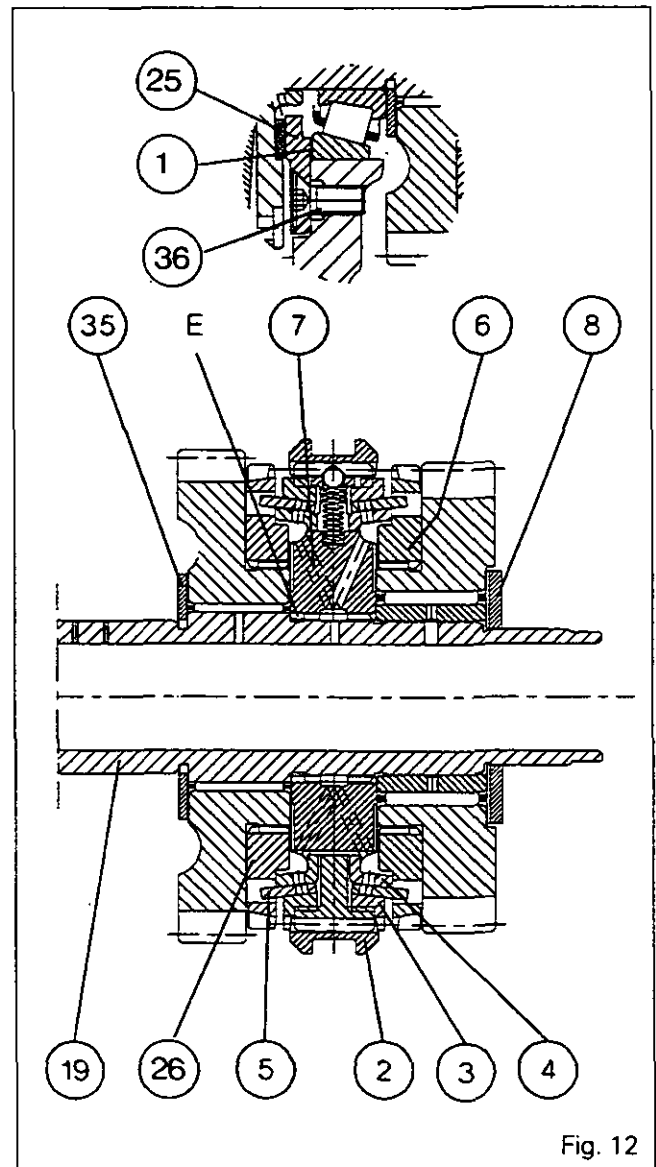
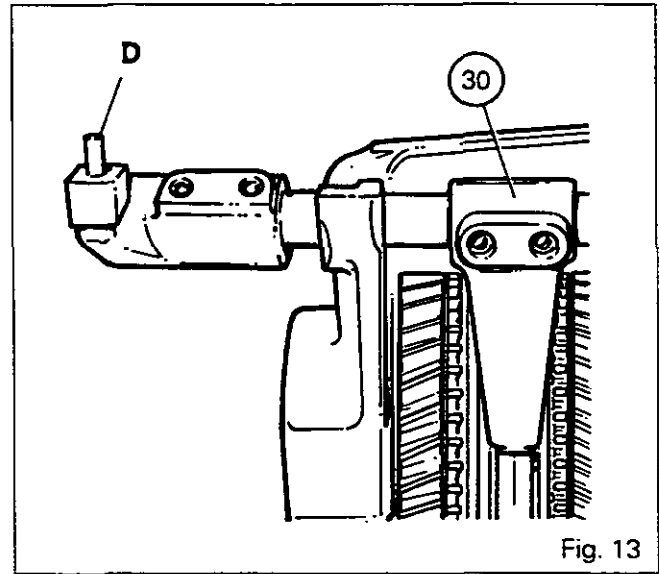

Fig. 12
Fig. 13
List of parts (Fig. 12)
- 70. Remove the reverse shuttle (Fig. 12).
The shimming procedure for the shaft (19) (Fig. 12), the adjustment of the fork (30) (Fig. 13) and tightening torques are unchanged.
Adjusting the reverse selector (Fig. 13).
The finger «D» on the selector (Fig. 13) moves a link connected to the position sensor fitted on the selector cover (See Section 5C02).